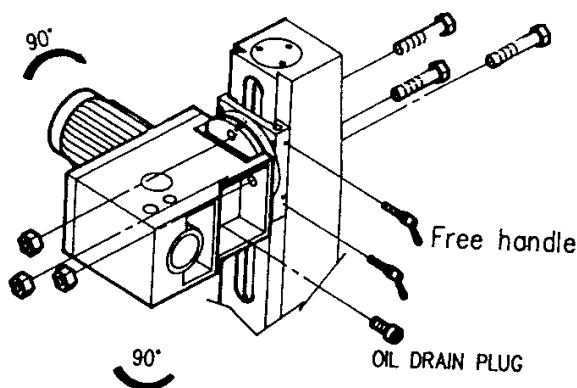

Fig. 1
5. USE OF MAIN MACHINE PARTS (See Fig. 1)
(2) After Operation
(3) Adjustment of Head
- (a) To raise and lower the head, loosen the two heavy duty head lock nuts shown in Fig.1. Use the left side head handle to raise and lower the head on its rack and pinion mechanism. When the desired height is reached, tighten the bolts to avoid vibration.